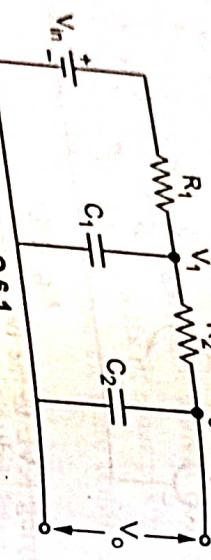

Fig. Q.6.1 (a)
**Ans.:** Assume the loop currents as shown in the Fig. Q.6.1 (a).